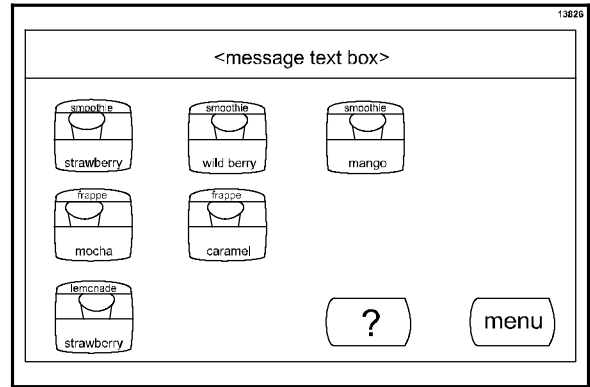

Figure 40
1. Press the MENU key to display the Main Menu screen. (See Figure 40.)